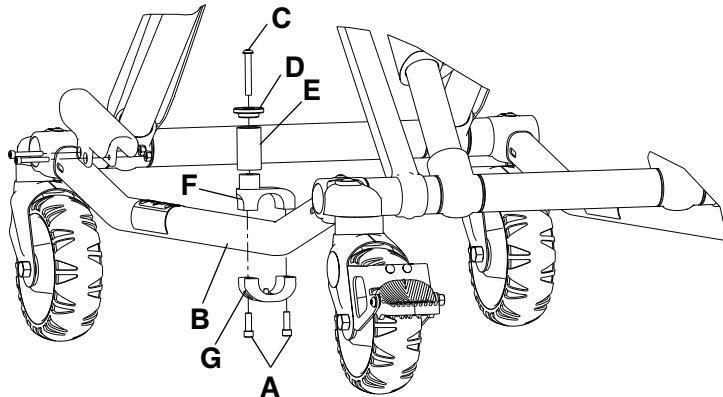

Figure 14 – Cot retaining post replacement
3. Using a T30 Torx driver, remove the two socket head cap screws (A) that secure the cot retaining post to the base tube (B) (Figure 14). Discard the screws and cot retaining post.
4. Insert the button head cap screw (C) through the retaining post cap (D) and post tube (E), and then into the top pin bracket (F) (Figure 14).
5. Using a 5/32" hex wrench, tighten the button head cap screw (C) to secure the retaining post cap (D) and post tube (E) to the top pin bracket (F) (Figure 14). Using a torque wrench, torque the screw to 100-140 in-lb.
6. Assemble the cot retaining post across the base tube. Align the holes of the brackets and insert two socket head cap screws (A) into the threaded holes of the bottom pin bracket (G) (Figure 14).